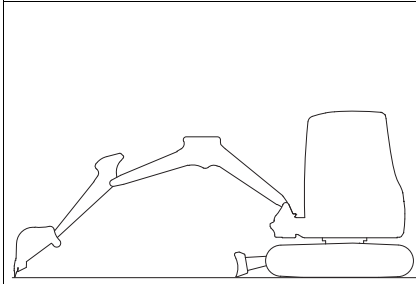

Fig. 292
2. Position the arm system straight ahead at the center of the vehicle (*Fig. 292*).